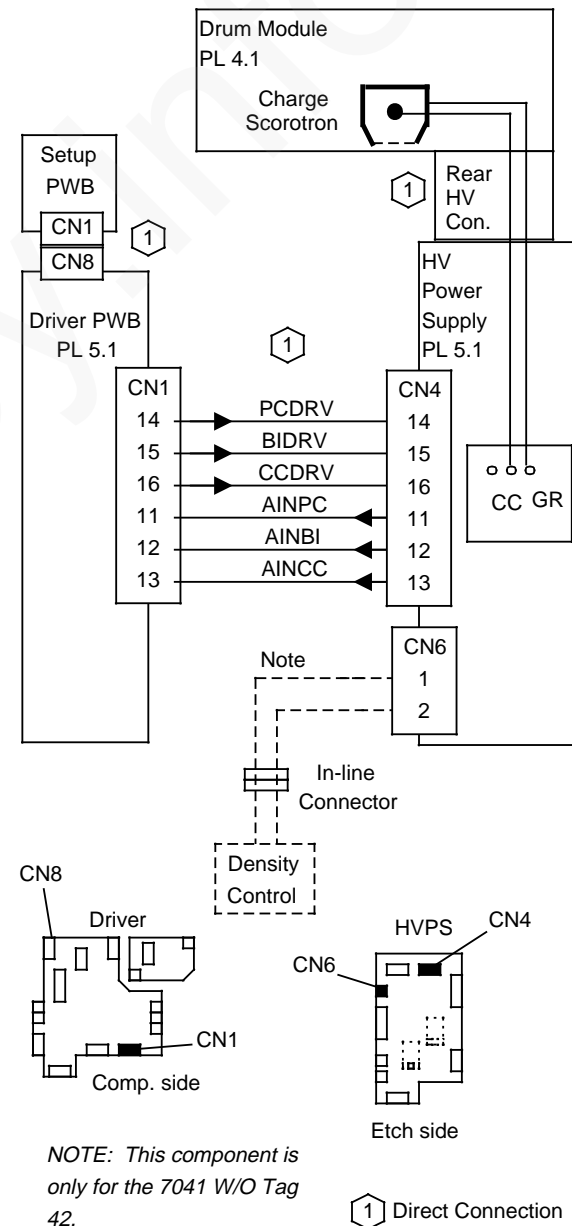

Figure 1. HV Drive and Feedback
5. Check the high voltage feedback signals. Measure the driver PWB CN1, pins 11, 12, and 13 to ground. (Figure 1)